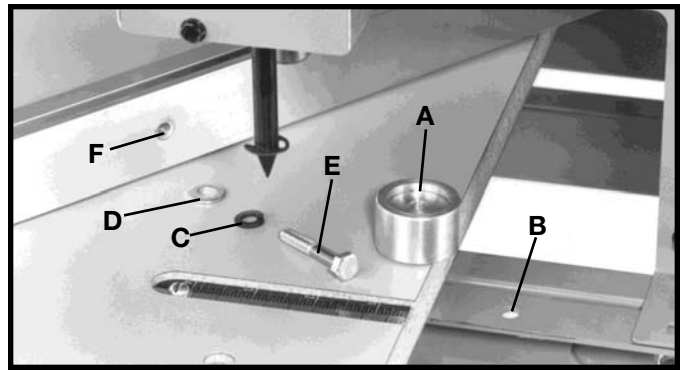

Fig. 14
1. Place spacer (A) Fig. 14, over hole (B) in table bracket with large countersunk end of spacer (A) in the up position.
2. Place a 1/4" lockwasher (C) Fig. 14, and a 1/4" flat washer (D) on the 1/4-20x1-1/2" hex head screw (E) and insert screw (E) up through hole (B) in table bracket and through hole in spacer (A). Thread screw (E) into threaded hole (F) on bottom of fence. **NOTE: DO NOT TIGHTEN HARDWARE AT THIS TIME.**